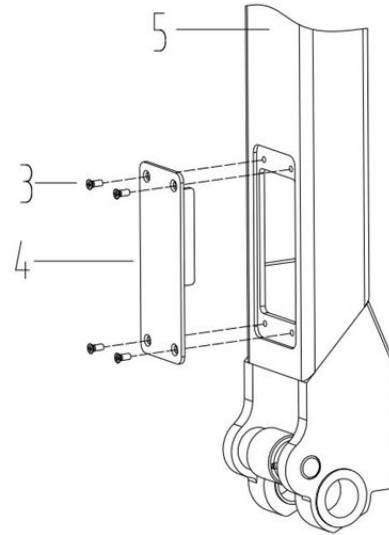

Figure 2
2. Refer to Figure 2: Loosen the four screws (part #3), then remove the cover plate (part #4).